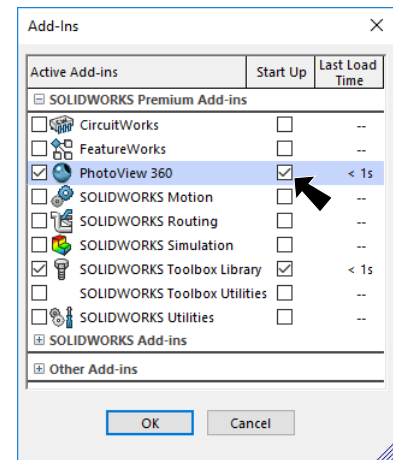

Fig. 30
Step 2. In the dialog box for **PhotoView 360** check in the check box under **Active Add-Ins** and **Start-Up**, **Fig. 30**. Click OK.